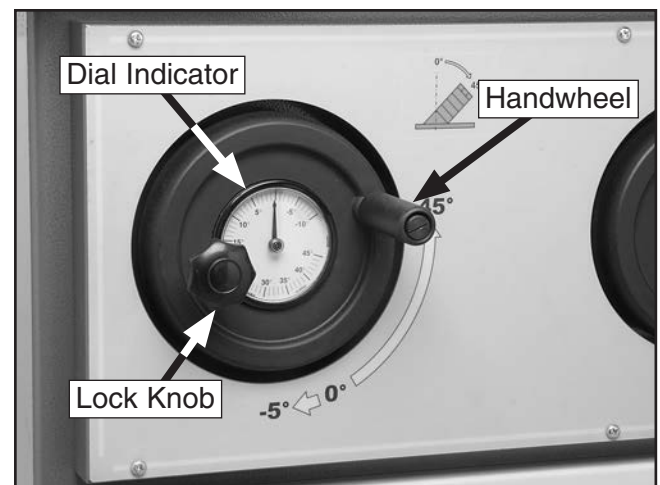

Figure 19. Spindle tilt handwheel, lock knob, and dial indicator.
2. Loosen the lock knob on the spindle tilt handwheel (see **Figure 19**).